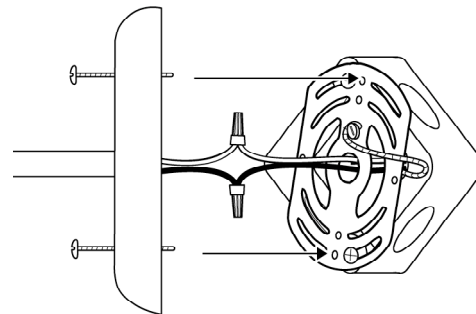

Figure 2
5. **(figure 2)** Use the Wire Nuts to connect the positive and negative wires. The side of the wire with ridges should connect to the neutral or white wire. The side of the wire that is smooth should connect to the hot or black wire.
6. **(figure 2)** Screw the Wall Plate into the Crossbar with the Black 8/32 Machine Screws to secure the sconce to the wall.